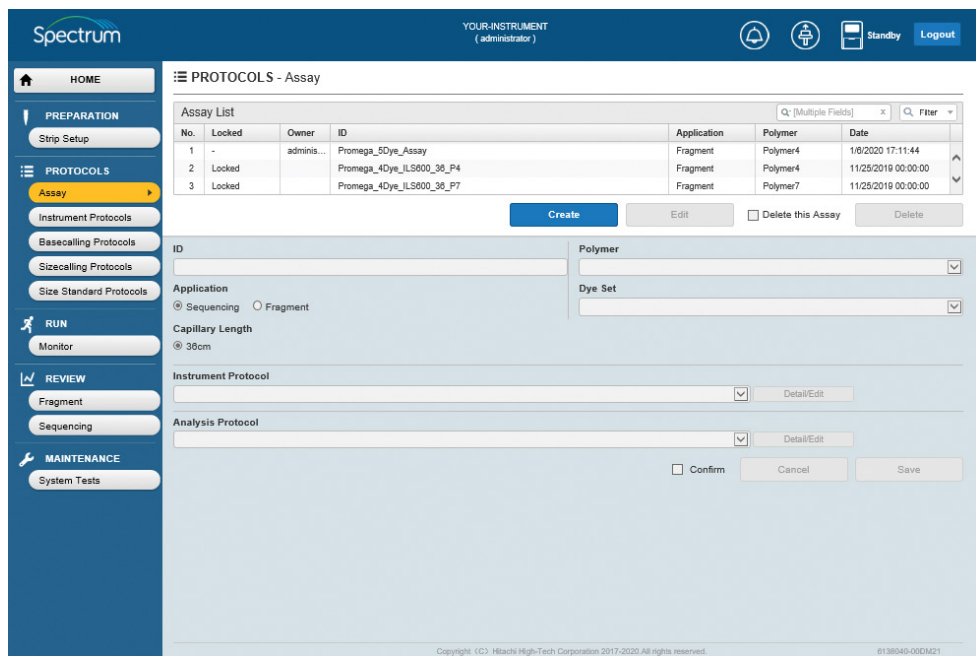

Figure 80. Searched and filtered assays.
- The assays that meet the desired search and filter parameters will be displayed at the top of the Assay List (Figure 80).